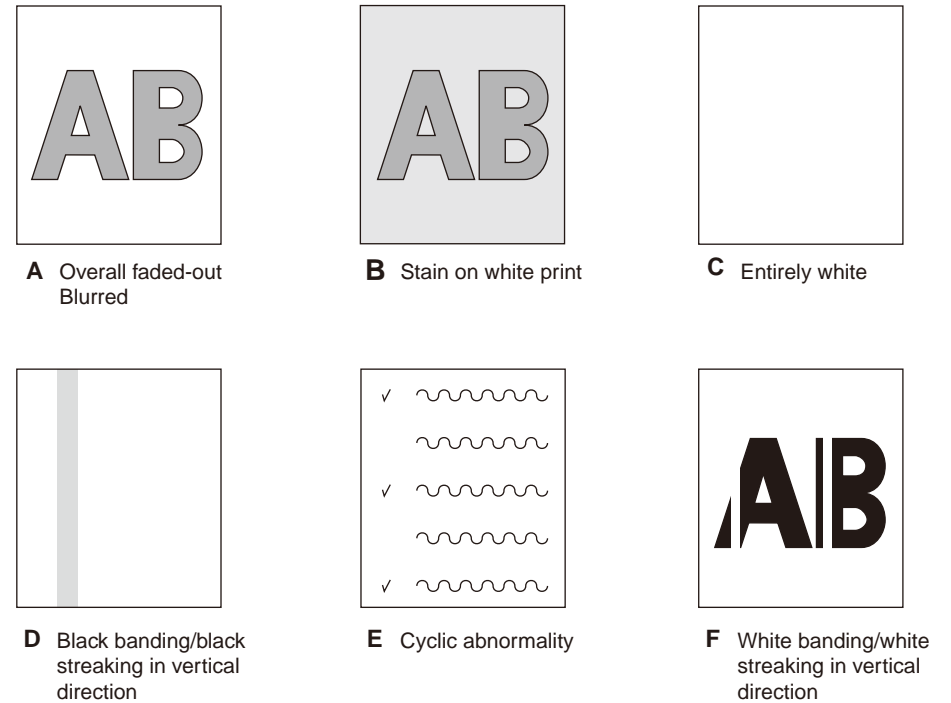

Fig. 7-2
7.5.3.(1) Color has faded-out and blurred entirely. (Refer to Figure 7-2 A)
7.5.3.(2) Stain on white print (Refer to Fig. 7-2 B)
7.5.3.(3) All white page print (Refer to Fig. 7-2 C)
(4-1) Thin vertical line (with color) (Refer to Fig. 7-2 D)
(4-2) Thin vertical line (with color)(Refer to Fig. 7-2 F)
7.5.3.(5) Cyclic abnormal print (Refer to Fig. 7-2 E)